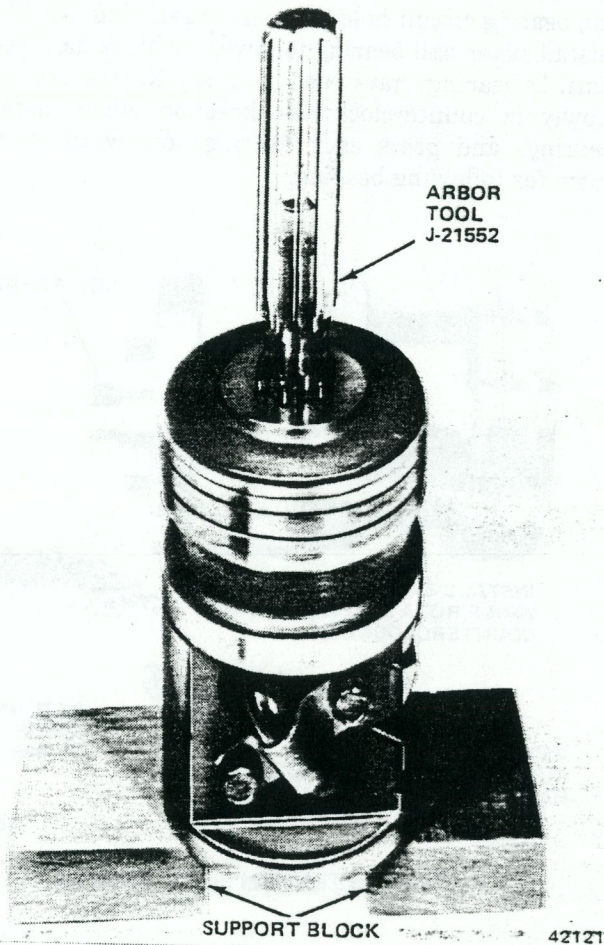

Fig. 2L-36 Arbor Tool Installed in Rack Piston
(12) Position assembled rack piston and arbor tool on end and support assembly on wood blocks until ready to install in housing (fig. 2L-36).